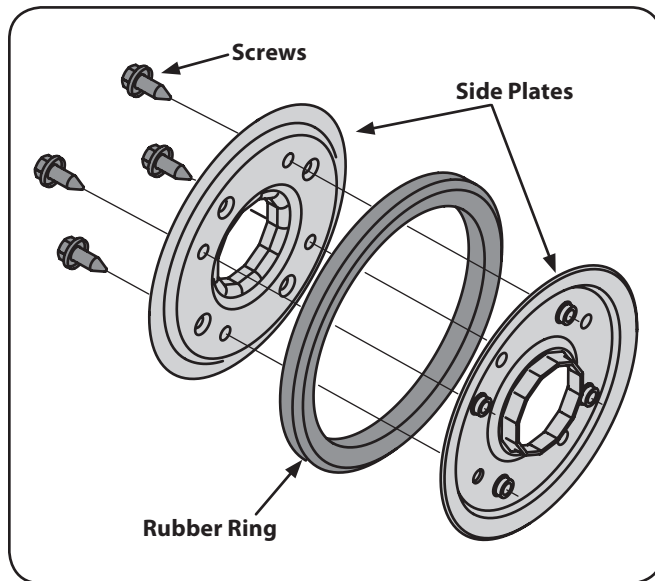

Figure 7-10
7. Remove the four screws from the friction wheel assembly. See Figure 7-10.